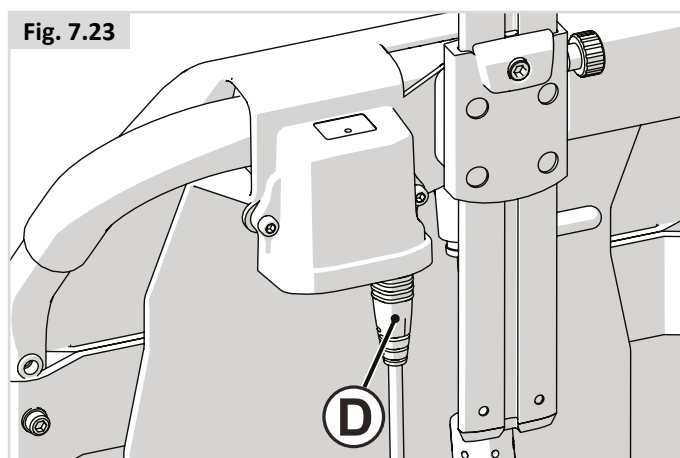

Fig. 7.23
- Your powerchair may be fitted with a tilt module (Fig. 7.23) for enhanced stability control (depending on options).
- Should your powerchair not turn on or experience unexpected drive lock out, please ensure cables (D) are fully connected to tilt module.